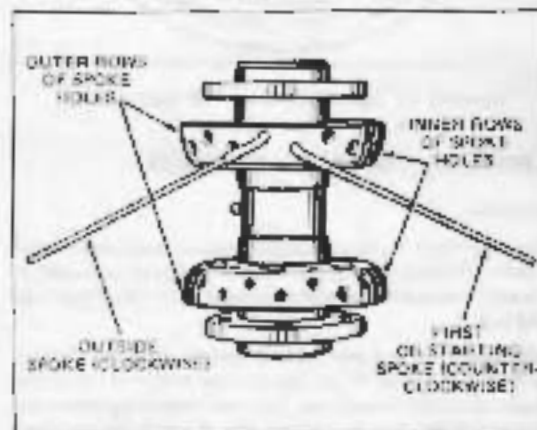

Figure 2-18. Starting Spokes in Wheel Hub - 16 Inch Wheel
### ASSEMBLING SPOKES (Figures 2-18, 2-19)
2. Insert spokes in ten inner spoke holes of hub flange (see Figure 2-18).